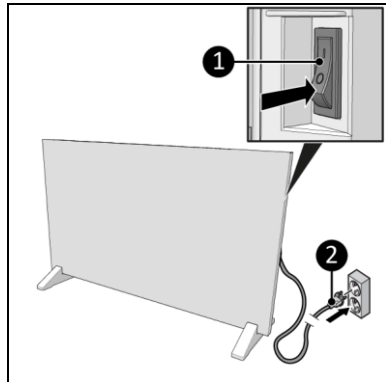

Figure 14
2. Make sure the ON/OFF switch is in the OFF position (Figure 14, pos. 1).
3. Place the power plug (Figure 14, pos. 2) into an earthed wall socket that is easily accessible. Use an earthed wall socket with a minimum power of 2500 Watt.